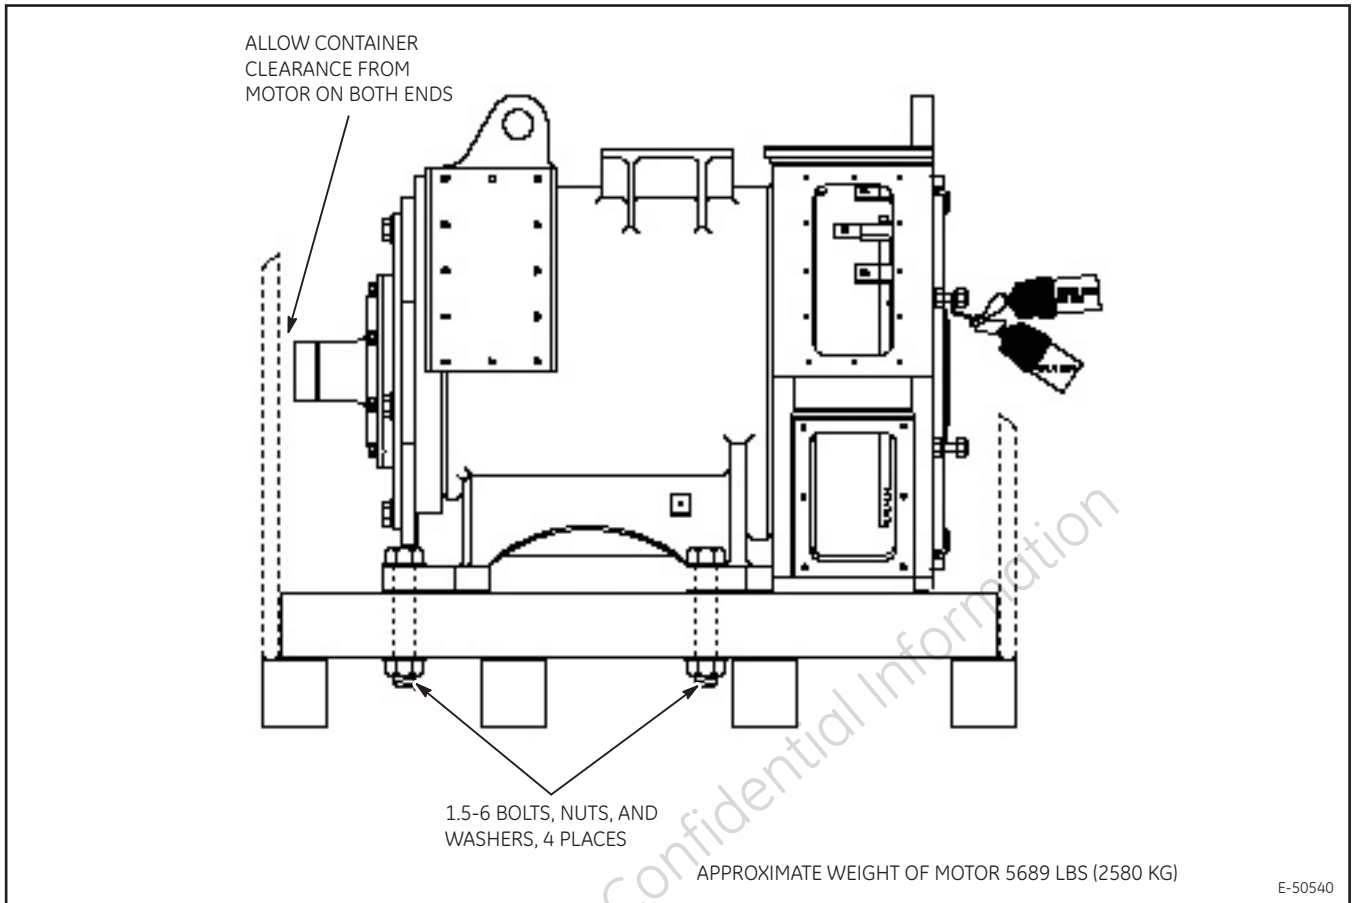

Figure 7. Shipment Preparation for the 5GEB22 Motor.
1. Prepare wood stock of sufficient length to skid the motor as shown in Figure 7. The yellow pine wood stock must be able to support the approximate 5700 lbs. (2585 kg) weight of the motor (not including the blower and connection box).